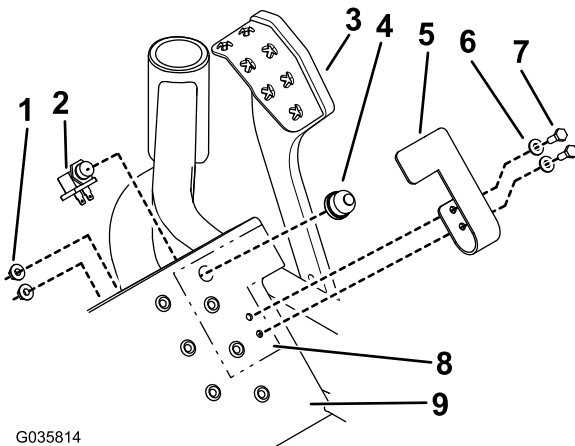

Figure 2
2. Cut out the switch template, align the template as shown in Figure 2, center punch the holes, and drill the holes as follows:
4. Insert the bottom half of the switch through the underside of the toeboard, making sure the contacts point downward (Figure 2). Screw on the top half of the switch hand-tight. Do not overtighten.
6. Install the power lift foot pedal using 2 screws (1/4 x 3/4 inch), 2 flat washers(1/4 inch), and 2 whiz-lock nuts (1/4 inch) as shown in Figure 2.